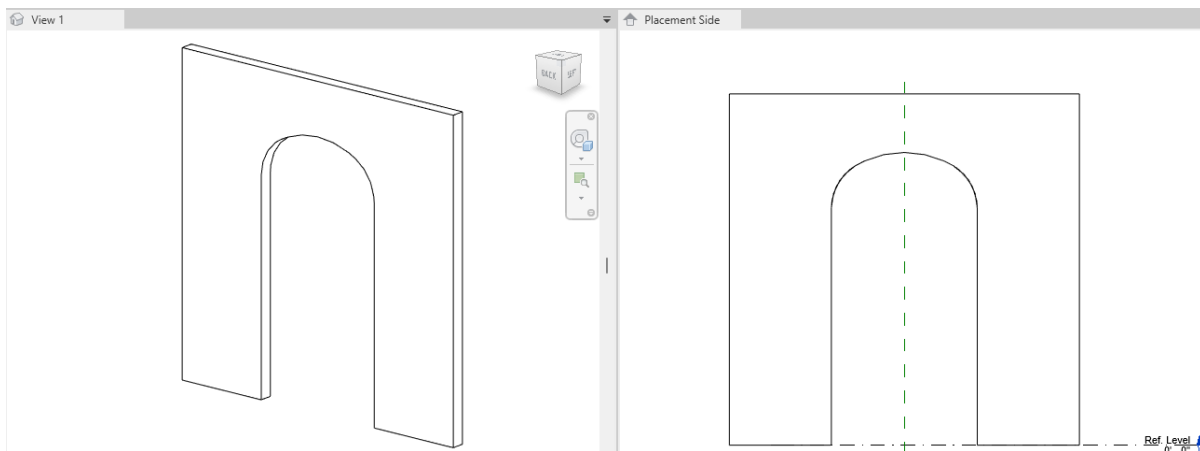

Figure 53—Flex the new parameters to ensure that the opening adjusts properly
- 8. Open the Family Types dialog and flex both the **Width** and **Height** parameters (see Figure 53).